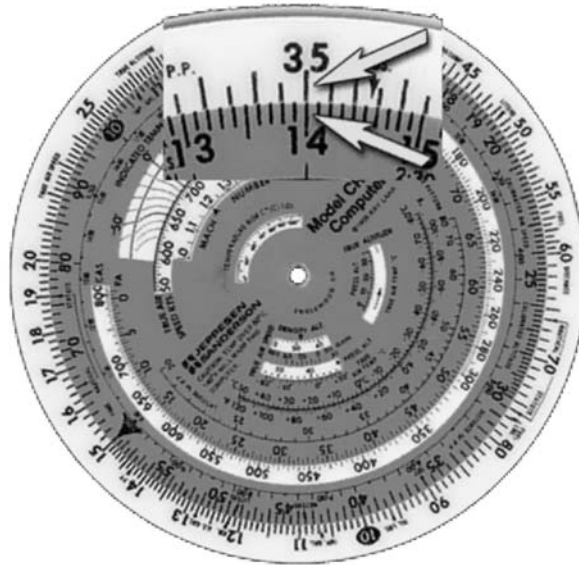

Figure 4.3-17 Time 2
4. Now read directly below 35 (350 NM). The time en route will be 140 minutes or 2 hours and 20 minutes (2 + 20). (Figure 4.3-17)